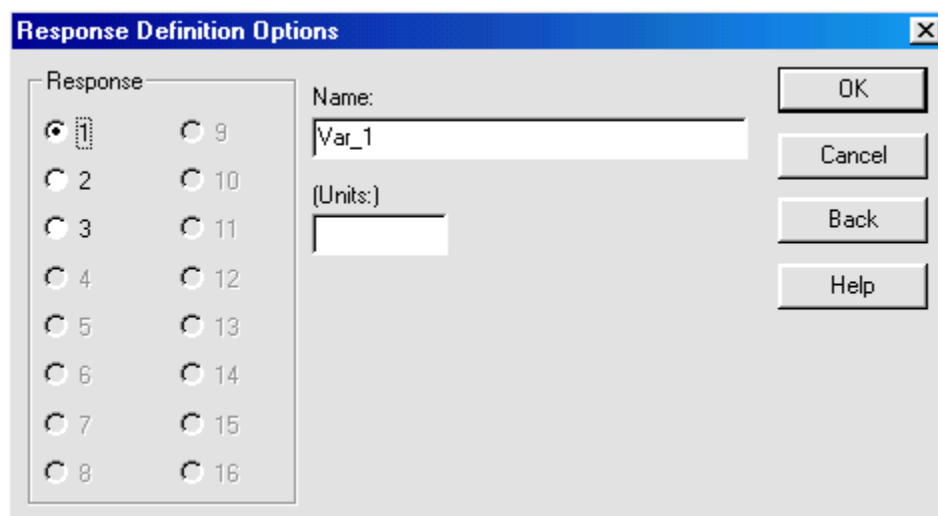

Figure 2-3. Response Definition Options Dialog Box
4. Accept the defaults by clicking OK. The Response Definition Options dialog box displays (see Figure 2-3).